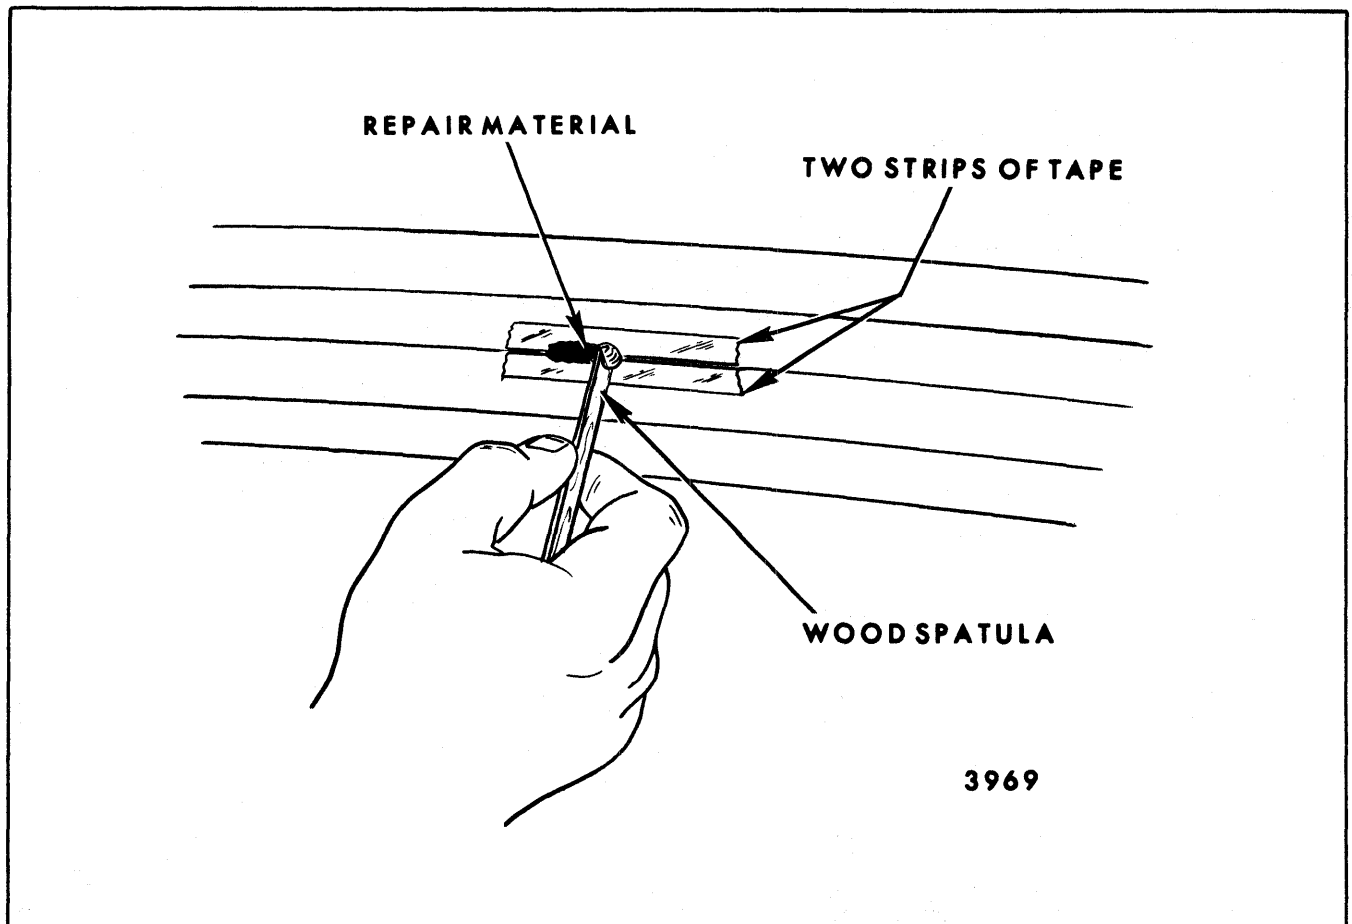

Fig. 10-28-Applying Repair Material to Broken Grid
7. With the glass at room temperature, apply the repair material with the small wooden mixing spatula, slightly overlapping the existing grid line either side of the break (Fig. 10-28).